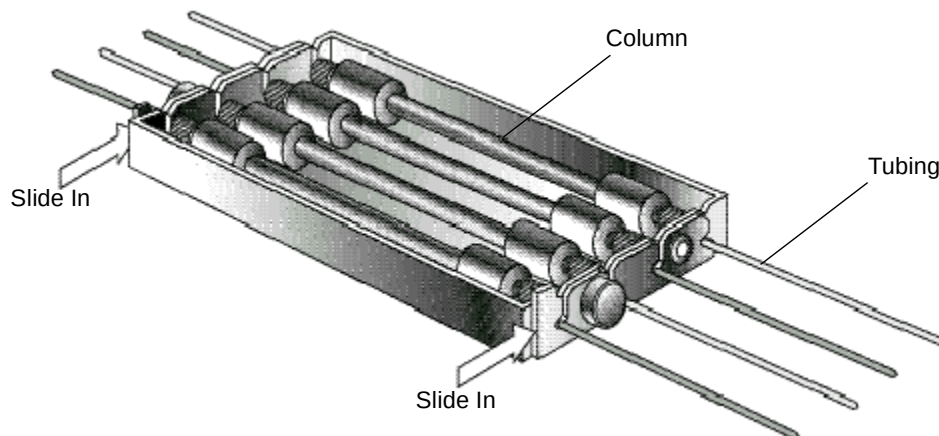

Figure 2-19 Finishing Column Installation
- e. Shift the slides on both sides of the bracket to the rear and fasten the two knurled nuts (Figure 2-19).